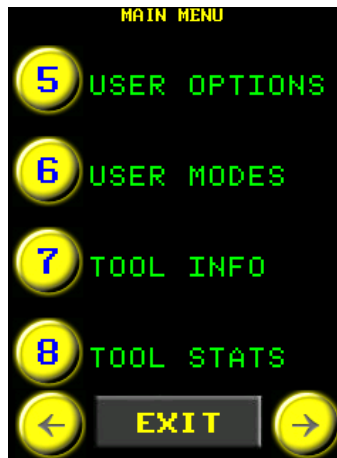

Figure 5.5-1: Main Menu
2. Select “User Options” from the Main Menu (Figure 5.5-1).